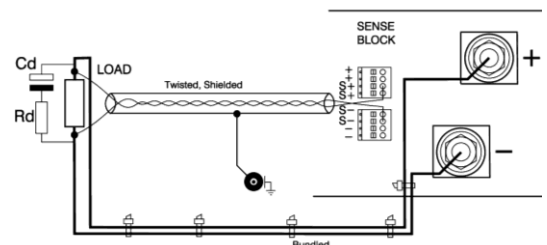

Figure 7.5: Remote sensing with shielded twisted wires and the power cables bundled close together to minimize inductance.
- To prevent interference must always be shielded and the sense wires in the cable should be twisted. See Figure 7.5 for an overview.